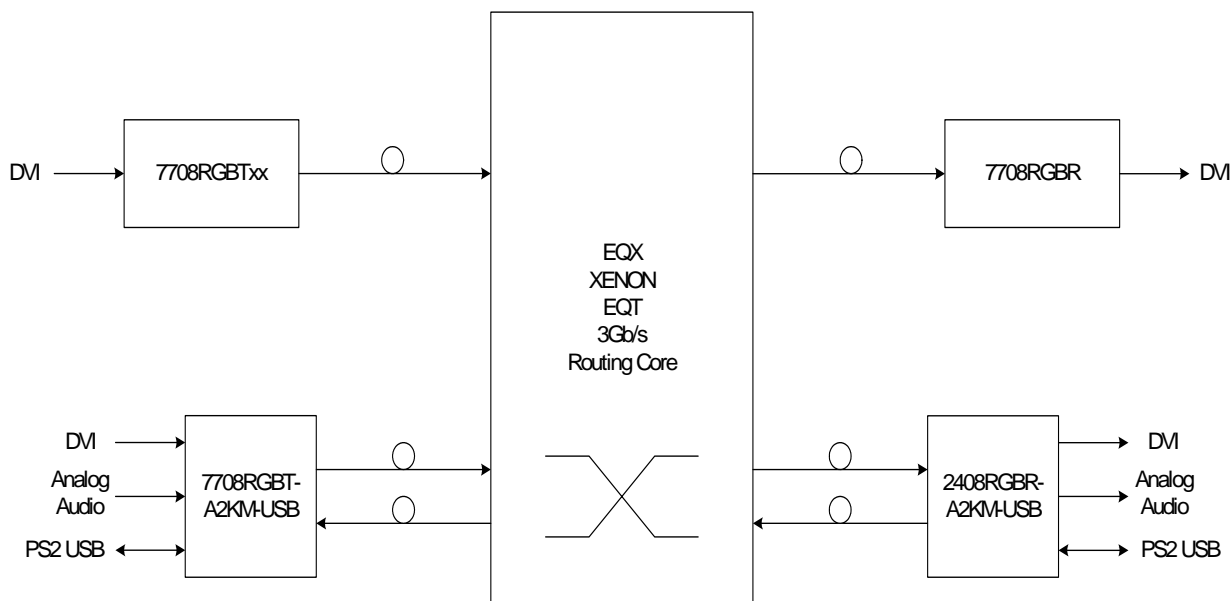

Figure 2-2: Setup Using an Optical Router
- Figure 2-2: Setup Using an Optical Router 7
Figure 2-2 illustrates a typical setup using an optical router with a bidirectional 7708RGBT transmitters and a compatible 2408RGRB receiver. To ensure proper system operation in bidirectional configurations, it is important that the Tx OUT and Rx OUT from are both switched at the same time. This should be taken into account when programming router salvo operations. Note that A2KM transmitter versions can only be routed to A2KM receiver versions and Non-A2KM transmitter versions can only be routed to Non-A2KM receivers.